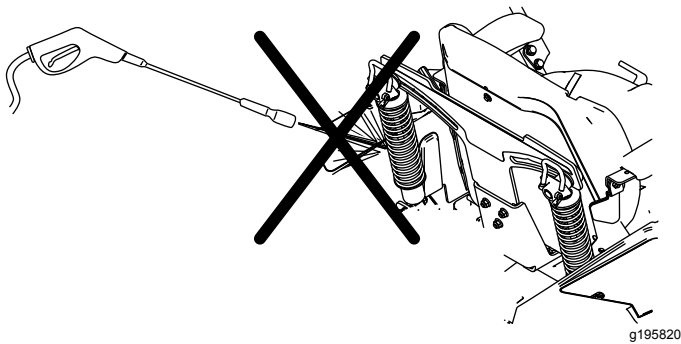

Figure 89
**Note:** Do not clean the shock assemblies with pressurized water (Figure 89).